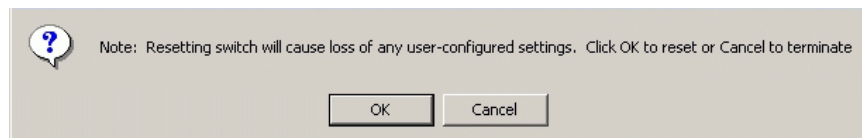

Figure 4-71 Browser-Specific Message Box
5. Click *Reset Configuration*. A browser-specific message box displays (Figure 4-71).